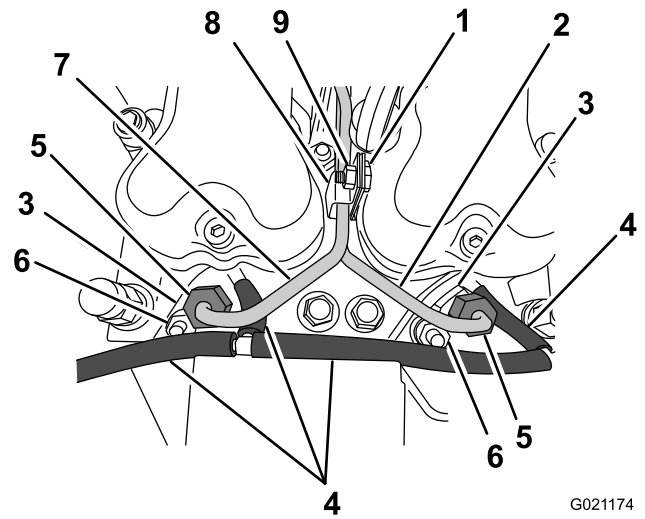
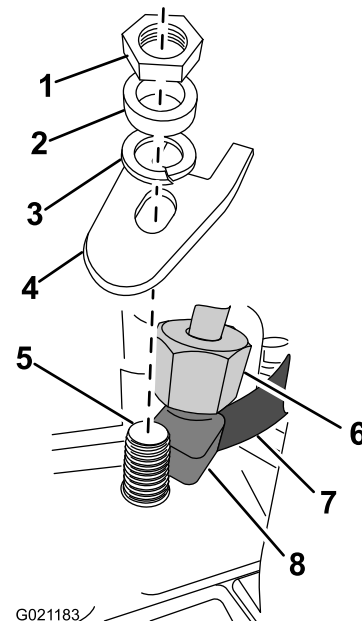

Figure 49
Figure 50
6. Loosen the tube nuts for both of the fuel injectors (Figure 49 and Figure 50).
8. Remove the retainer nuts, washers, lock washers, and retainers that secure the fuel injectors to the cylinder head (Figure 50).